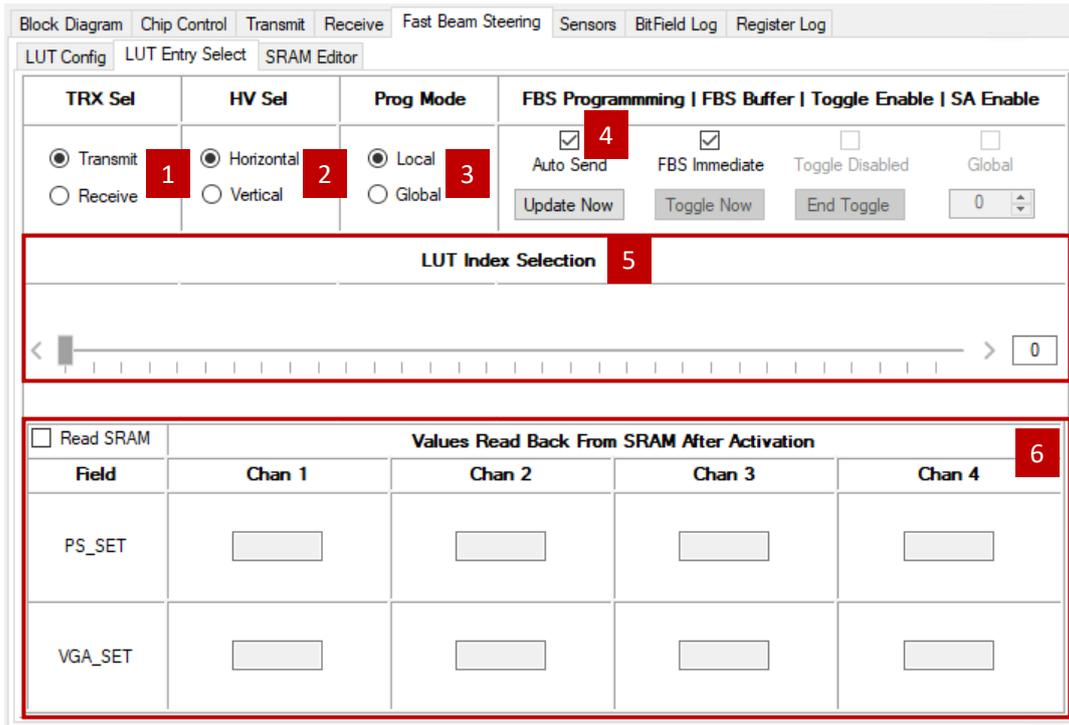
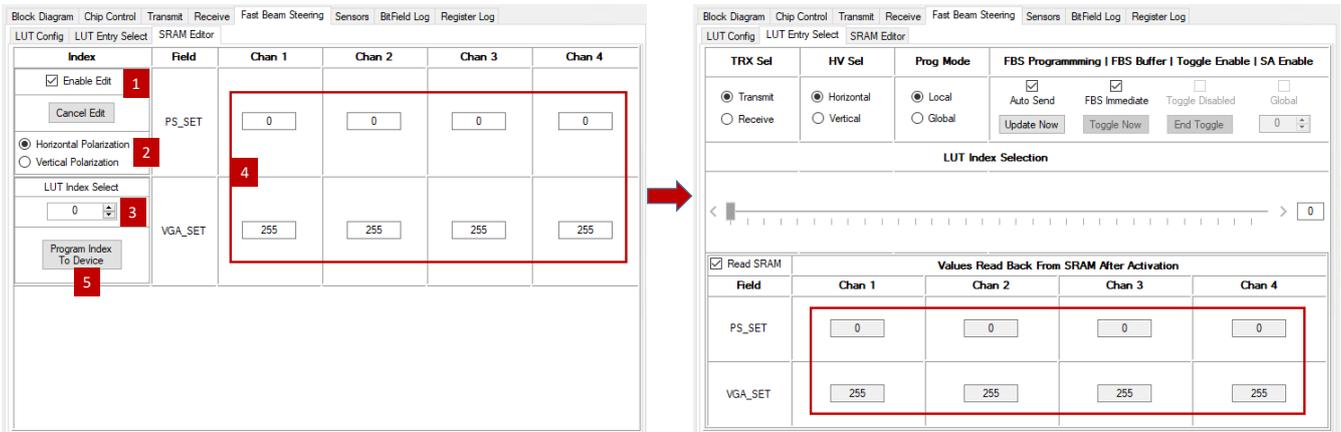

Figure 25. Fast Beam Steering Panel: LUT Entry Select
Figure 26. Fast Beam Steering Panel: SRAM Editor
If the FBS LUT data is programmed to the SRAM, fast beam steering can be performed using the **LUT Index Selection** slider or by directly entering the index number (0 to 1023) in the entry box (see item 5 in Figure 25) in the LUT Entry Select subpanel. The FBS LUT data on SRAM can also be edited on the SRAM Editor subpanel shown in Figure 26. Select the **Enable Edit** checkbox (see item 1 in Figure 26), polarization (see item 2 in Figure 26), and LUT Index to be edited (see item 3 in Figure 26). Then click the **Program Index to Device** button to write the gain and phase settings (see item 4 in Figure 26) to SRAM at the specified LUT index. As an example, the LUT Entry Select subpanel in Figure 26 displays the values programmed to the SRAM after the update.